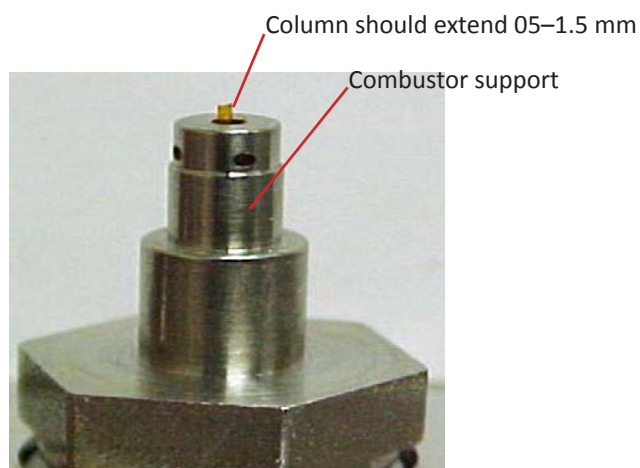

Figure 3.38. Combustor assembly
5. Carefully pull the capillary column down until the column extends only 0.5 mm to 1.5 mm above the top of the combustor support (Figure 3.38). Tighten the GC column nut
NOTE: For optimal performance, the column must be 0.5-1.0 mm above the combustor support (Figure 3.38).